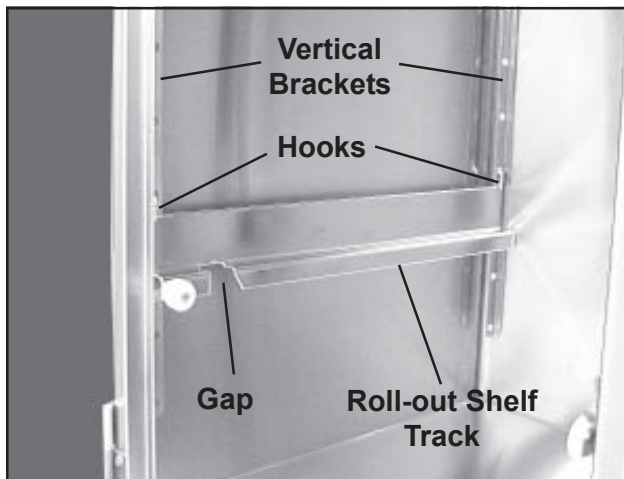

Figure 35. Roll-out Shelf Track and Vertical Brackets
2. Lift up on the roll-out shelf track and unhook it from the front and rear vertical brackets (Figure 35).
2. If replacing a roller on the roll-out shelf track, lift up on the track and unhook it from the front and rear vertical brackets (Figure 35).